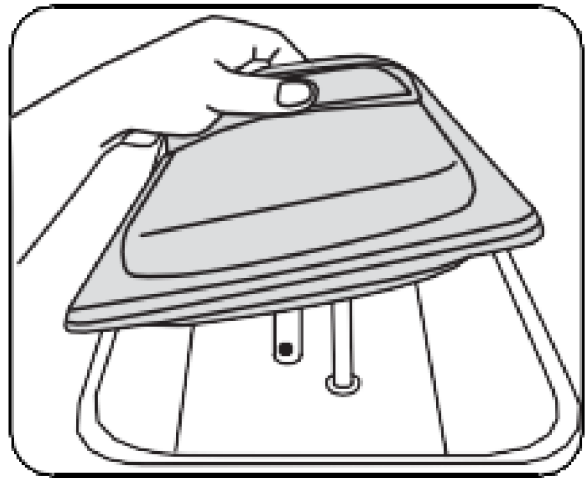
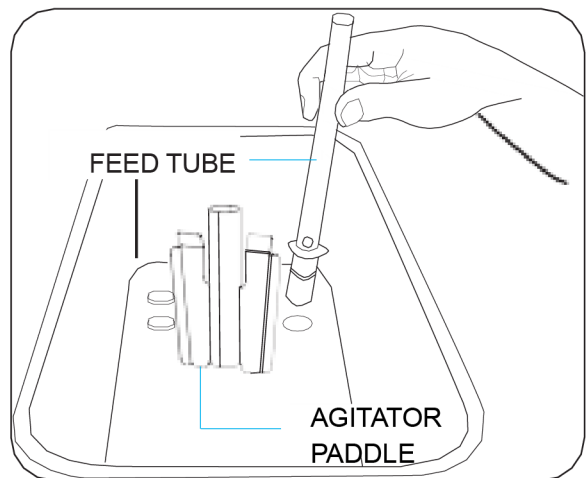

Figure 5-28
Figure 5-29
2. Remove the hopper cover (Figure 5-28.) and take out the feed tube, feed tube body and the beater paddle (Figure 5-29.)